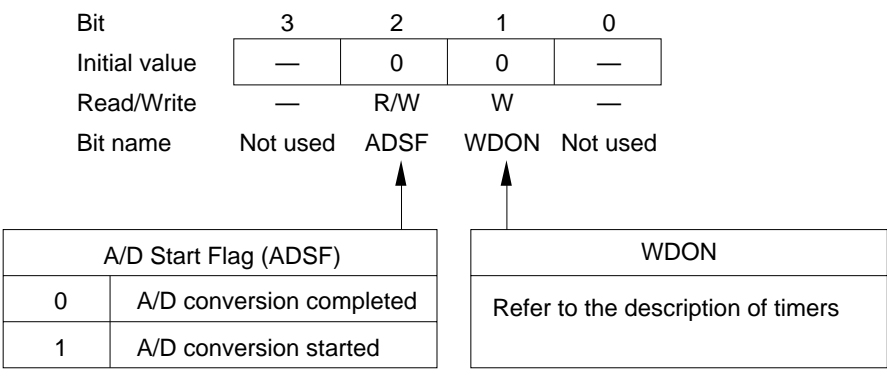

Figure 56 A/D Start Flag (ADSF)
- A/D conversion is started by setting the A/D start flag (ADSF: \$020, bit 2) to 1. After the conversion is completed, converted data is stored in the A/D data register, and at the same time, the A/D start flag is cleared to 0 (figure 56).